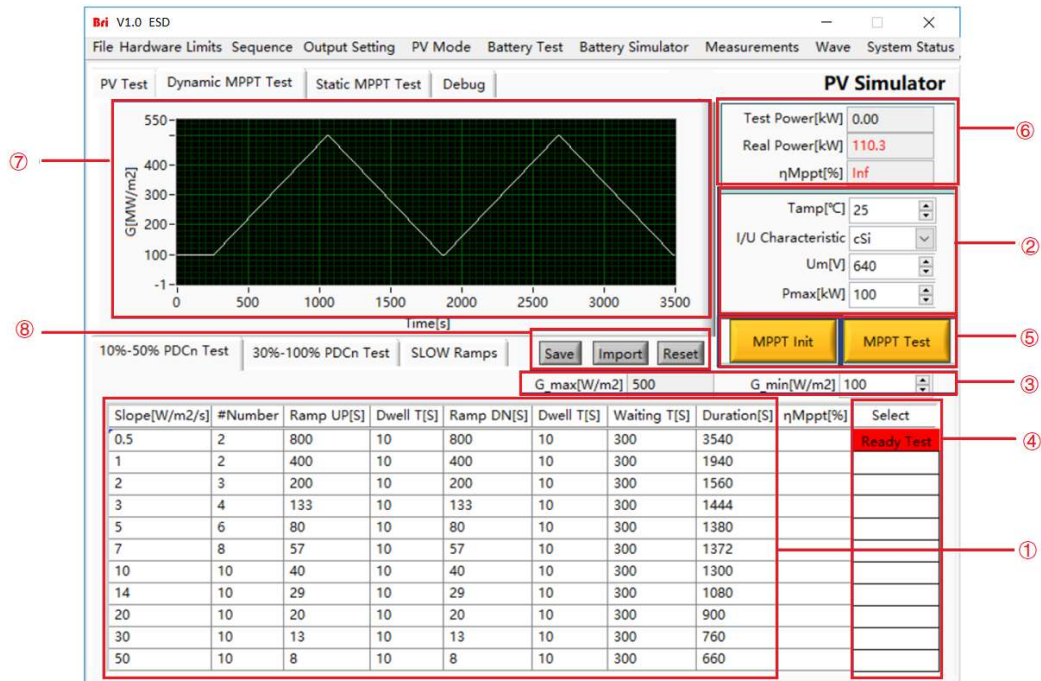

Figure 5-15 Dynamic MPPT test
Set the temperature (Tamp), I/U characteristics (crystalline silicon/thin film mode), Um, Pmax, initial irradiance and other parameters (Figure 5-15②③), click to switch the state of the test line to the ready state (Figure 5-15④), Click "Initialize button" (MPPT Init) → "MPPT Test button" (MPPT Test)
(Figure 5-15⑤), the software will automatically calculate and display the real-time parameters during the test (Figure5-15⑥), and generate a simulation curve in the waveform display area (Figure 5-15⑦). After starting the MPPT test, the remaining test time will be displayed according to the test progress, and the corresponding status will be displayed; after each line is executed, the dynamic maximum power point tracking efficiency  $\eta_{Mppt}$  will be calculated. After the test is completed or the test is stopped, the MPPT test parameters in the table return to the initial state.